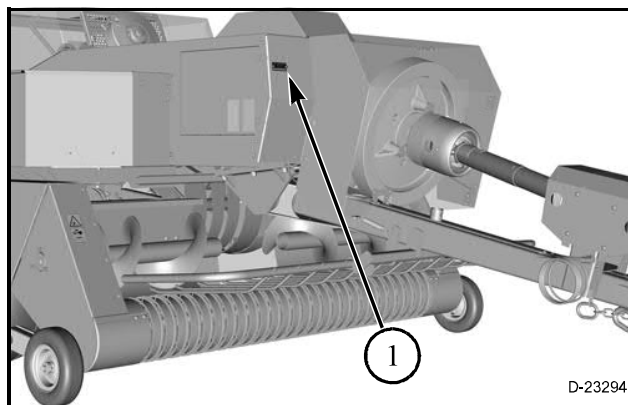

FIG. 1
FIG. 1: Each baler has a serial number plate (1) with the model and serial number. The serial number plate is located on the right-hand side of the front shield.